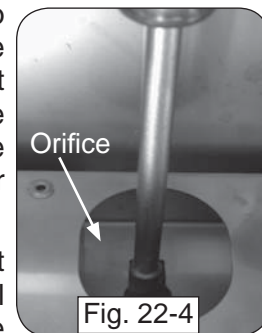

Fig. 22-4
3. Use a $\frac{3}{8}$ " hex nut driver to remove the exposed orifice (Fig. 22-4) and replace it with the correct orifice for the new gas. (See Table 1 at the beginning of this document for orifice sizes.)